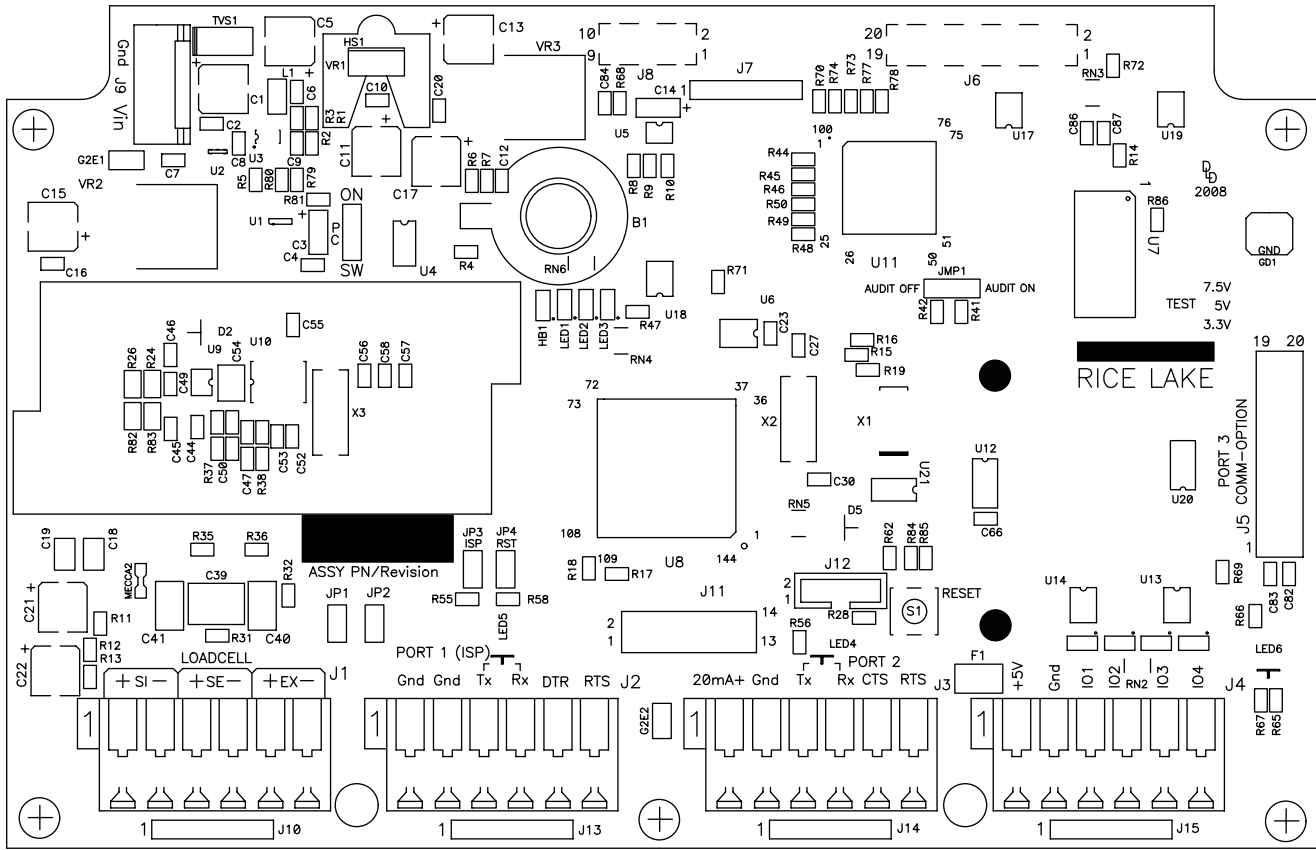

Figure 2-5. CW-90/CW-90X CPU Board
3. Install the plastic standoffs in the standoff holes (shown as black-shaded circles in Figure 2-5).